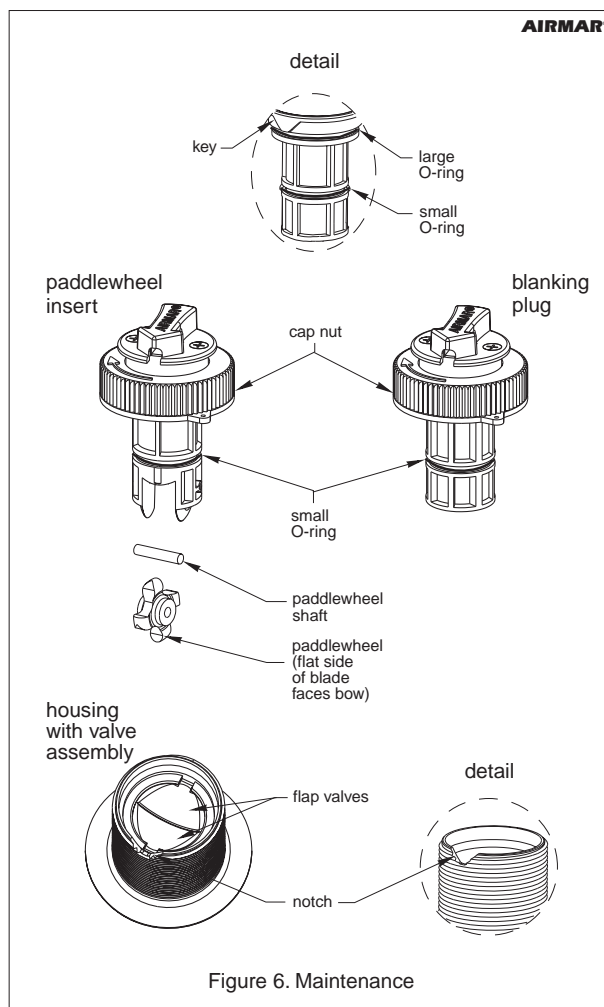

Figure 6. Maintenance
The sensor incorporates a self-closing valve which minimizes the flow of water into the boat when the paddlewheel insert is removed. The curved flap valves are activated by water pressure. Water pushes the flap valves upward to block the opening, so there is no gush of water into the boat (see Figure 6).
1. Inspect the O-rings on the blanking plug (replace if necessary) and lubricate them with the silicone lubricant supplied or petroleum jelly (Vaseline®) (see Figure 6).
3. To remove the paddlewheel insert from the housing, unscrew the cap nut. This will jack the insert out of the housing. Do not unscrew the screws. Replace the paddlewheel insert with the blanking plug. Seat it into place with a pushing twisting motion until the key fits into the notch in the housing. Screw the cap nut in place and hand-tighten only. Do not over tighten (see Figure 6).
1. Using the new paddlewheel shaft, push the old shaft out about 6 mm (1/4"). With pliers, remove the old shaft (see Figure 6).
4. Install one large and one small O-ring (see Figure 6 detail).